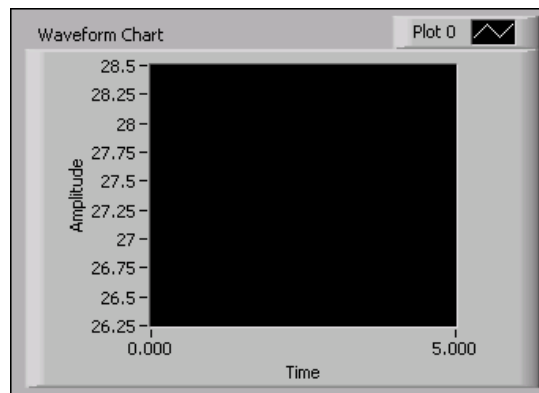

Figure 10.12
1. Open a blank VI and build the front panel shown in Figure 10.12 by placing a waveform chart, located on the Controls>>Graph Indicators palette, on the front panel.